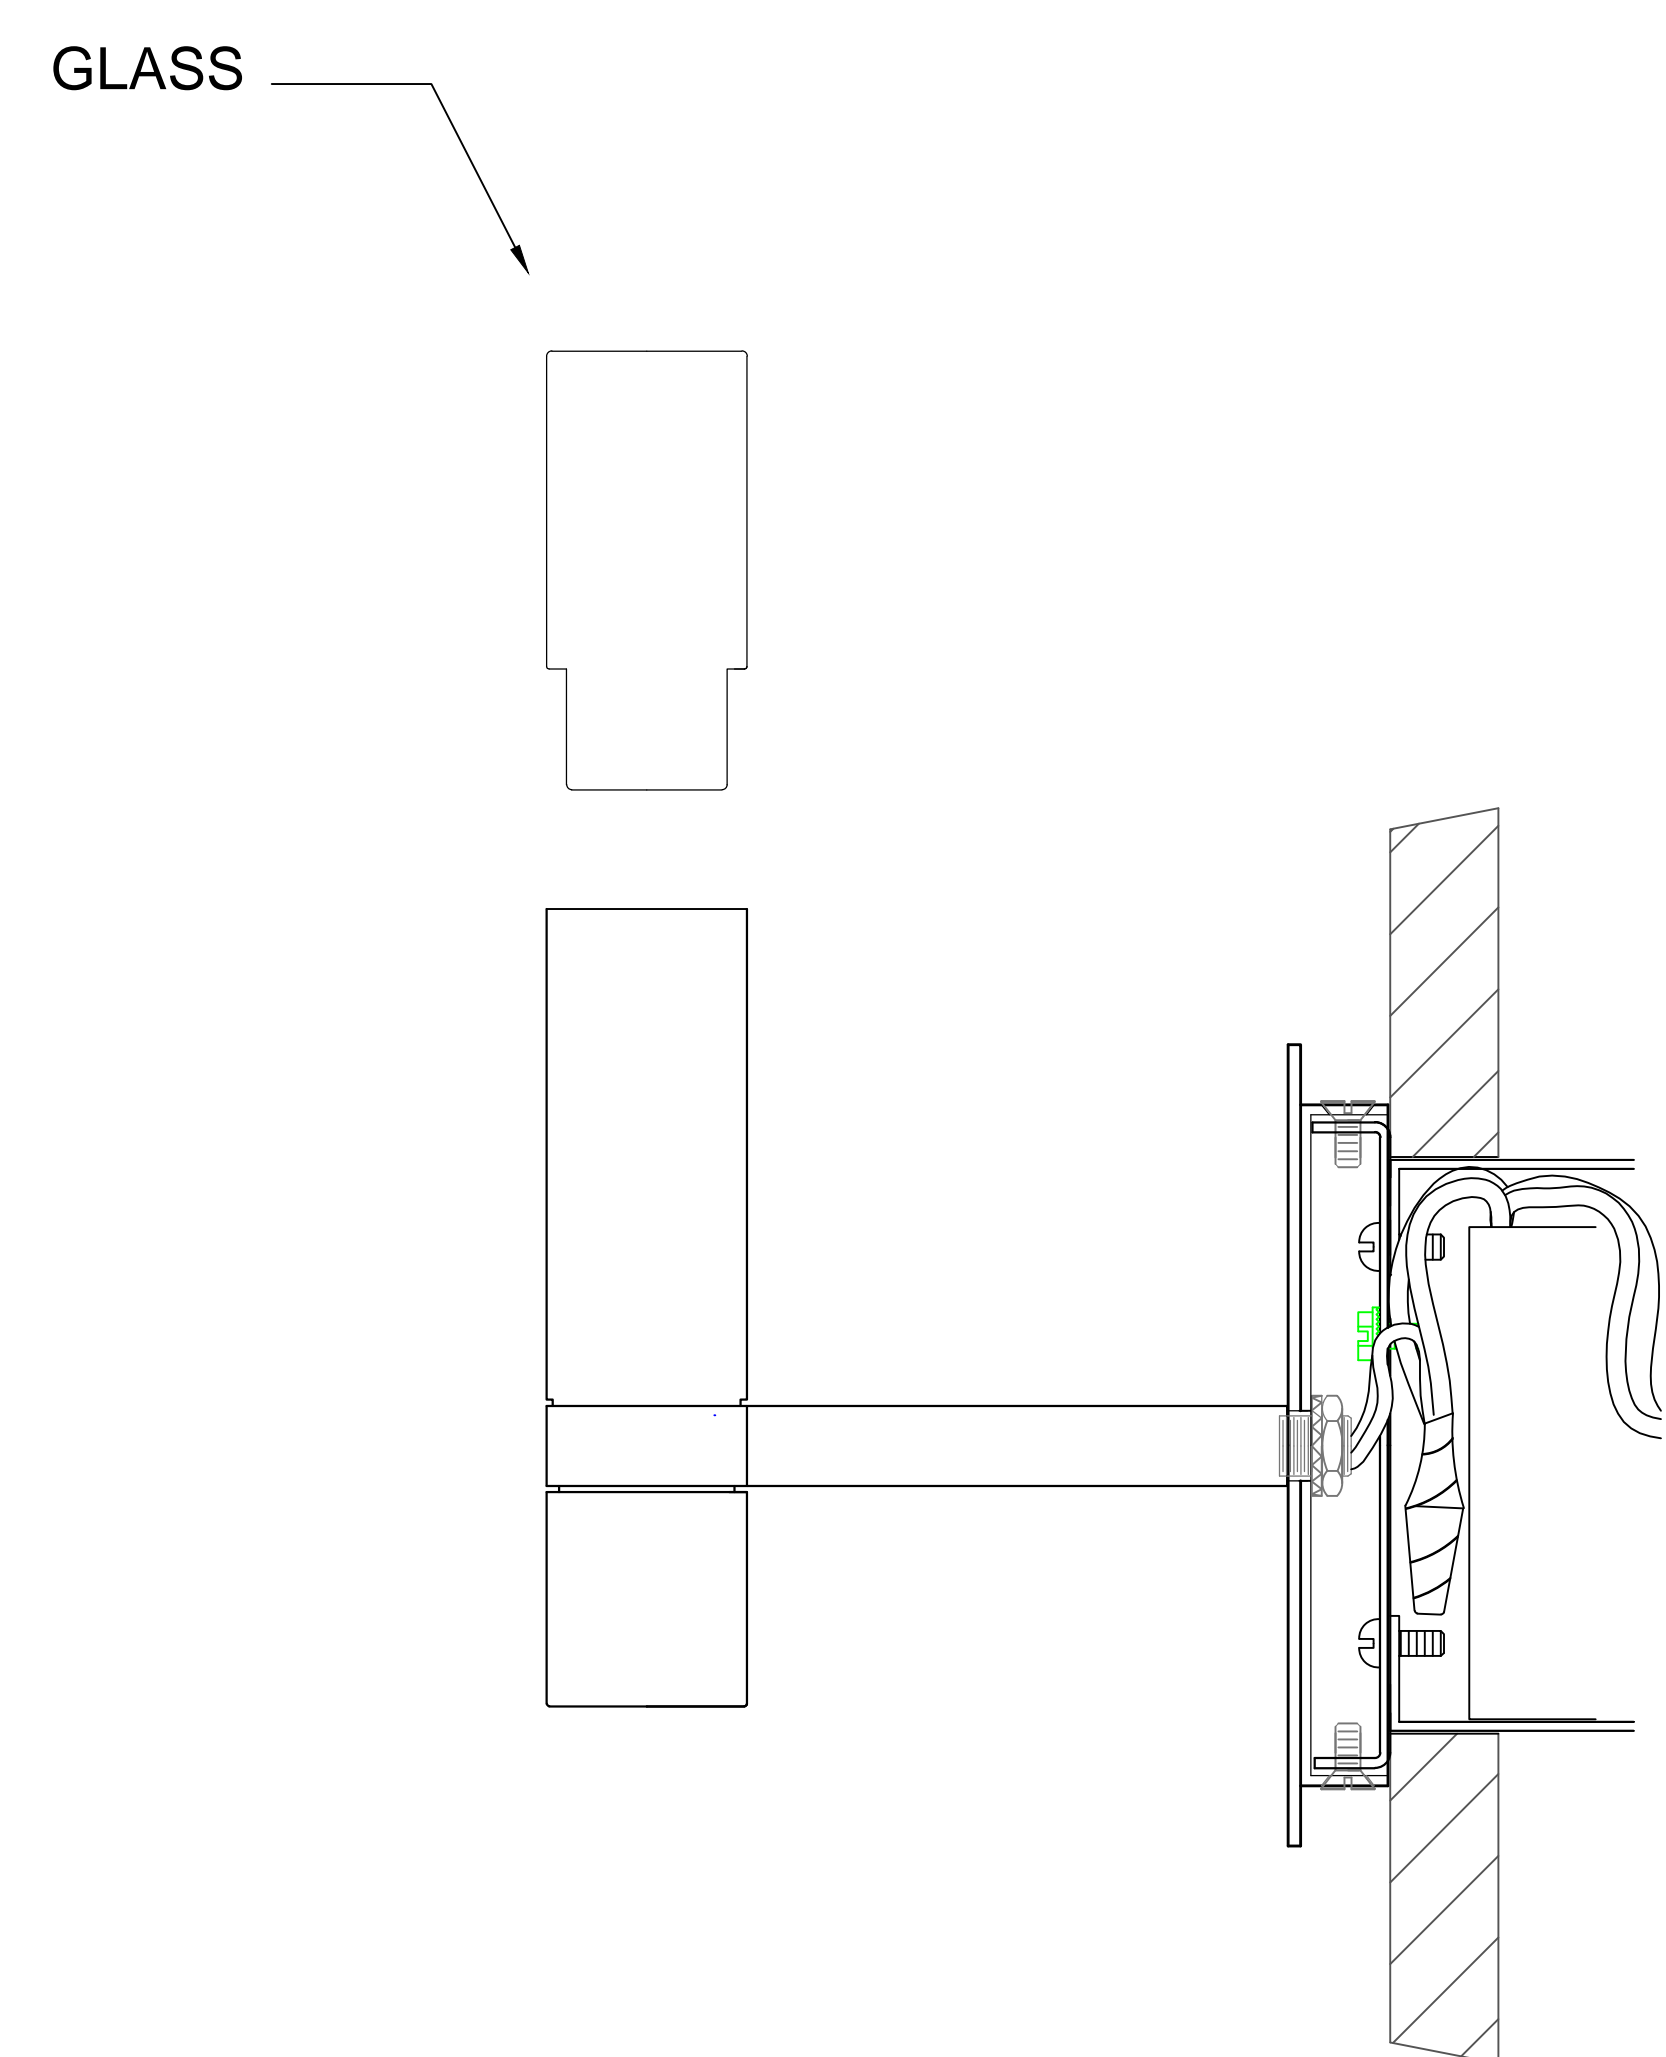

FIGURE-05
8. Insert the glass onto the fixture. (See figure-05)